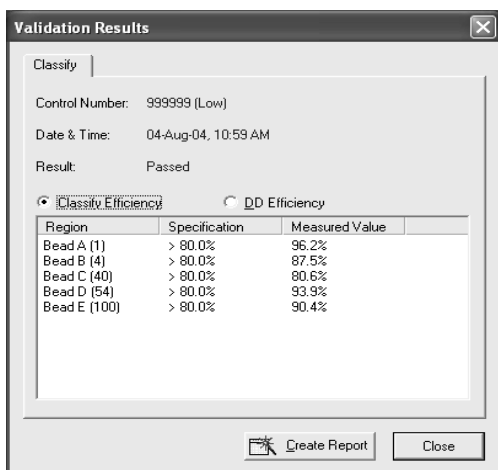

Fig. 11. Classify validation results.
10. When the procedure is completed, values will be displayed in a dialog box as shown below (Figure 11). The classify efficiency and DD efficiency results may be accessed in this view.